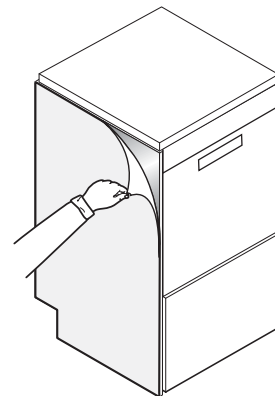

Figure 6 Removing the film
- Carefully remove the protective film from the outer panels without tearing it, to avoid leaving traces of glue (Figure 6).